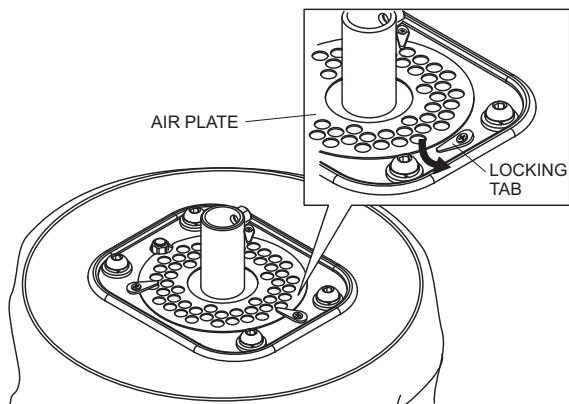

Figure 44. Accessing Filter
2. Turn the balloon/lamp assembly upside down to access the filter. See Figure 44.
3. Turn the three locking tabs outwards to release the air plate. See Figure 44.